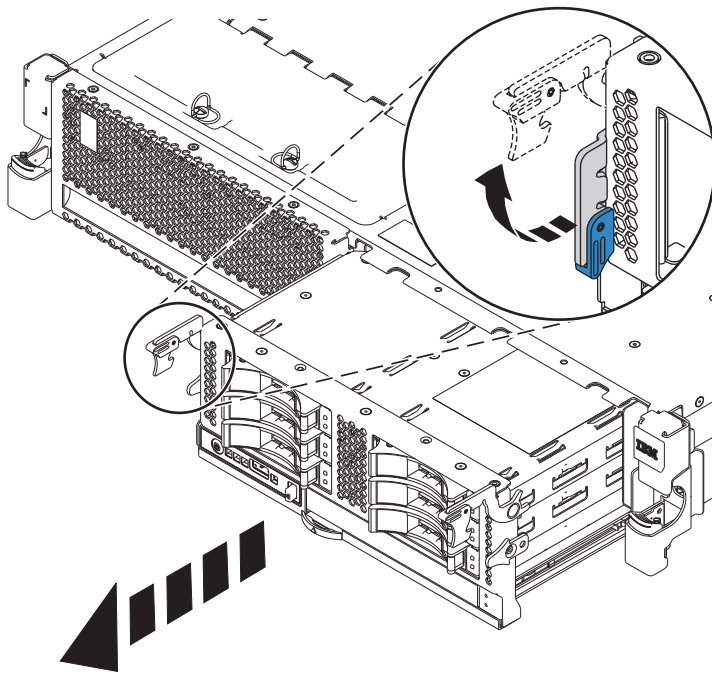

Figure 4. Removing the disk drive cage
- b. Grasp the handles and pull the disk drive cage toward you. See Figure 4.